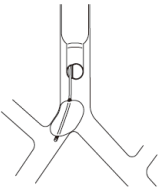

Fig.8
- 1)&2) The above may be attributed to the fact that the blocker cuff has been dislodged into the lumen of the trachea (herniation), narrowing it (Fig.8).
7. If such herniation as described in Fig.8 is occurred, hypoxemia can be remedied by simply deflating the cuff.